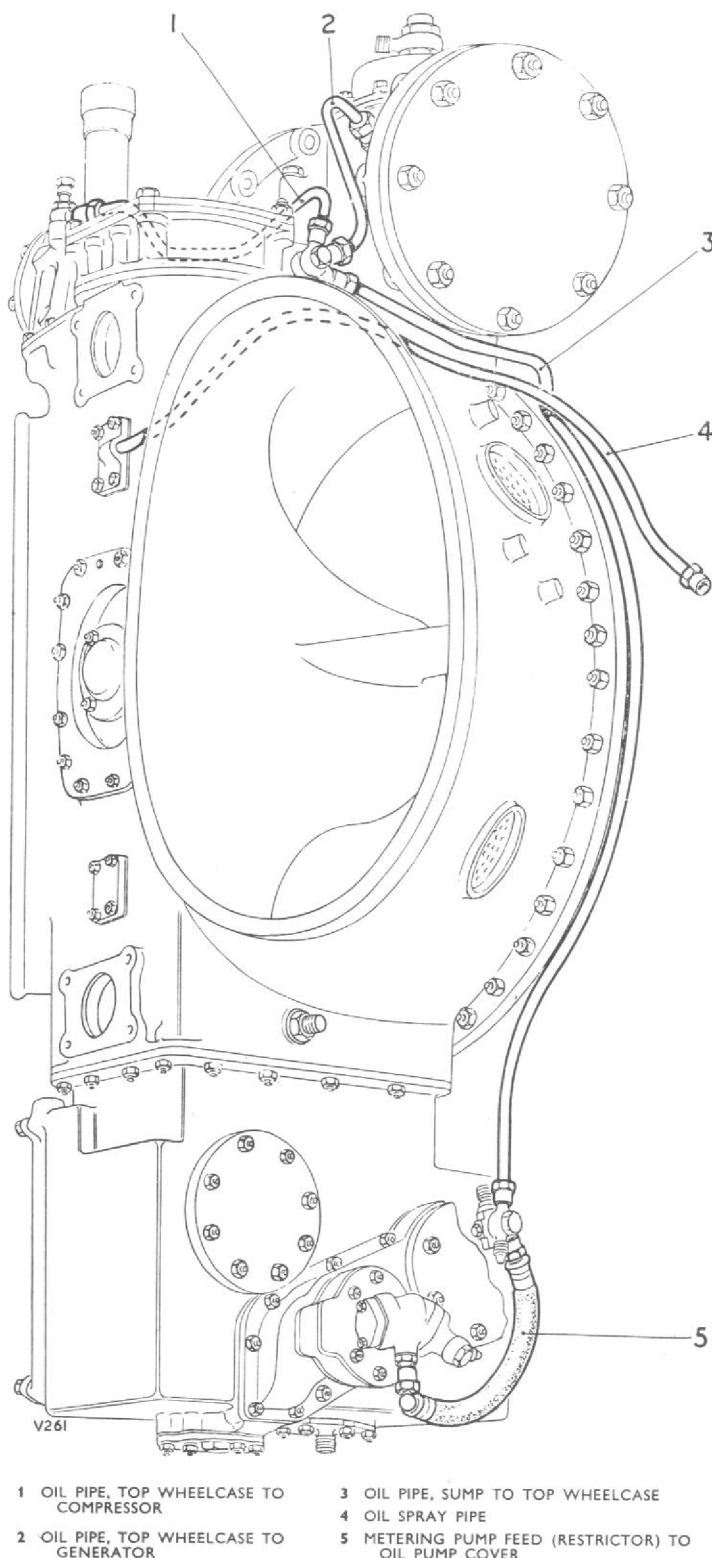

Fig. 25. Pipe positions on the air-intake
31. Assemble the pipes detailed as follows to the positions shown in fig. 25.